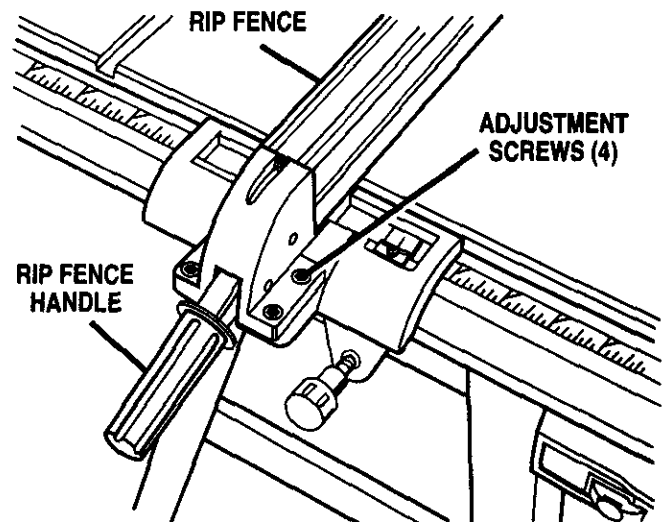

Fig. 38
- If the distances are different, loosen the four screws around the rip fence handle with a 6 mm hex key. Alternate the order (remove the screw opposite, not next to the first one). See Figure 38.